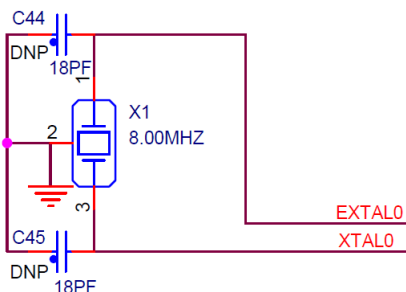

Figure 12. USB-KW40Z MK22FN512 8 MHz clock source
- 8 MHz Reference Oscillator - Figure 12 shows the external 8 MHz external crystal X1. This mounted crystal must meet MK22FN512 specifications. It also provides C44 and C45 to the bulk of the crystal load capacitance.